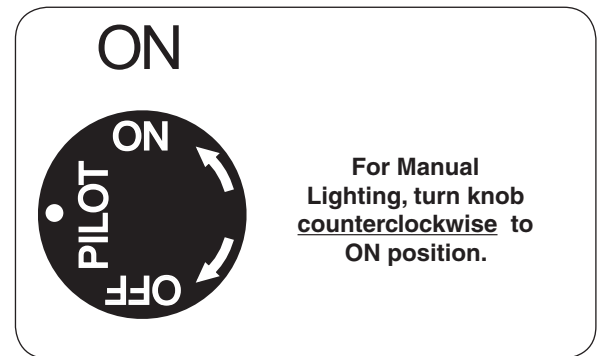

Fig. 37-3 Control knob detail (ON)
2. Turn the gas control knob counterclockwise to **ON** (Fig. 37-3) to ignite the burner. The valve will open and the burner will light.
**WARNING:** If the burner fails to light within 5 seconds, turn the control knob clockwise to **PILOT**. Allow five (5) minutes for any gas in the unit to dissipate, then repeat step 2 above. **IF YOU SMELL GAS, SEE STEP B AT BEGINNING OF LIGHTING INSTRUCTIONS.**